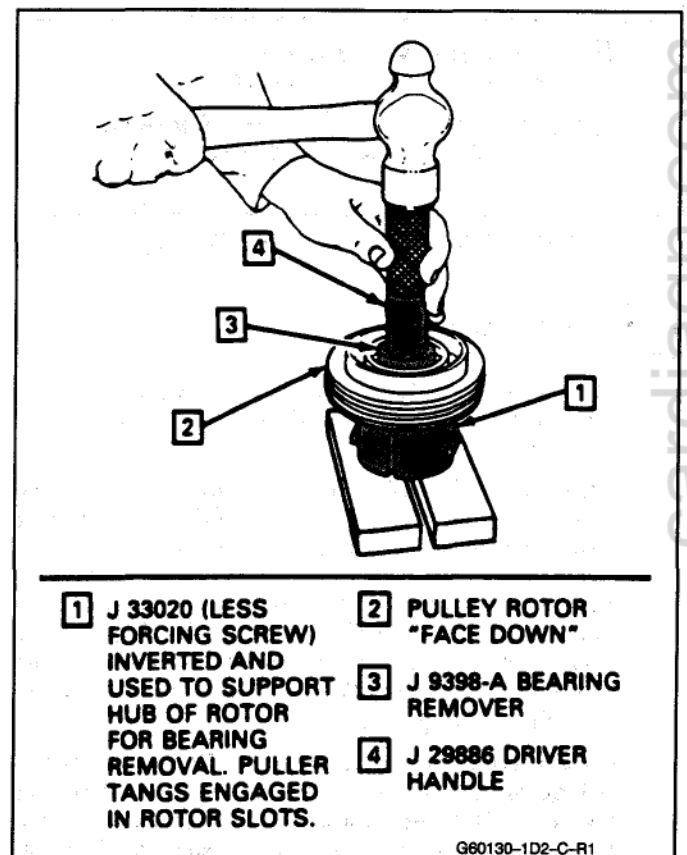

Fig. 9 Pulley Rotor Bearing Removal
Remove the forcing screw from J 33020 pulley and, with the puller tangs still engaged in the rotor slots, invert the assembly onto a solid flat surface or blocks as shown in Figure 9.
6. Drive the bearing out of the rotor hub with rotor bearing remover J 9398-A and J 29886 universal handle (Fig. 9).